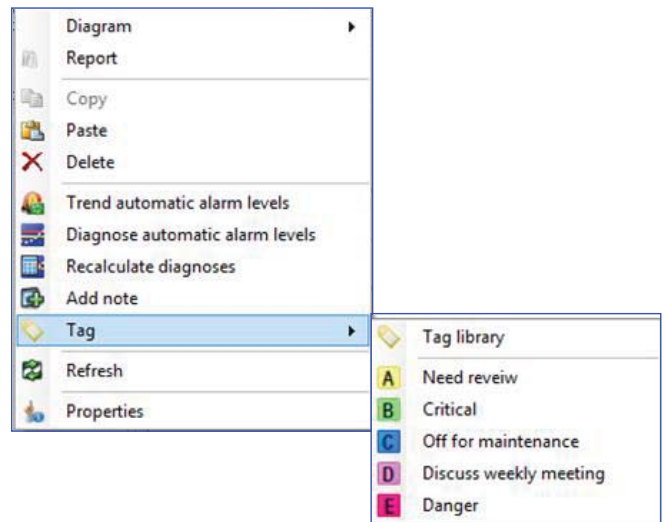

Fig. 4. Add a tag to a machine or a measurement.
- 2 Select a user-predefined tag in the drop down menu in (→ fig. 4).